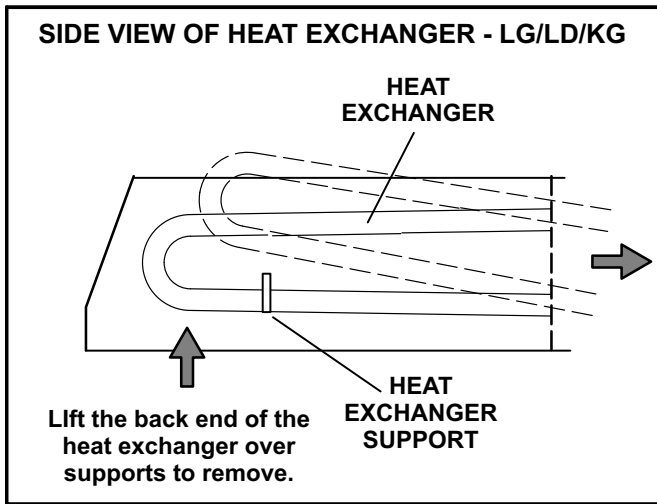

FIGURE 4
- 2- Lift the back end of heat exchanger over the top of the supports and slide exchanger slightly toward the front of the unit. See figure 4.
- 3- Remove the heat exchanger as shown in figure 4.
- 5- Remove the heat exchanger as shown in figure 4.